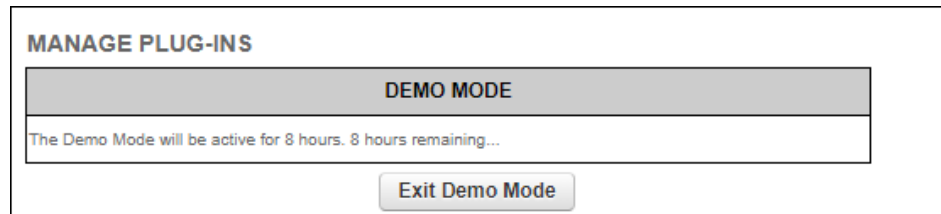

Figure 50. MANAGE PLUG-INS dialog (Demo Mode activated)
- The **Demo Mode** activation dialog will be shown (Figure 50 \(page 99\)). A countdown timer shows how much Demo time remains.